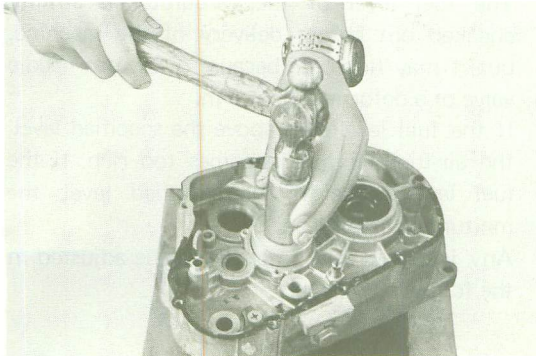

Fig. 4-18-3
- b. Remove the bearings with the bearing removing tool. (Fig. 4-18-3)